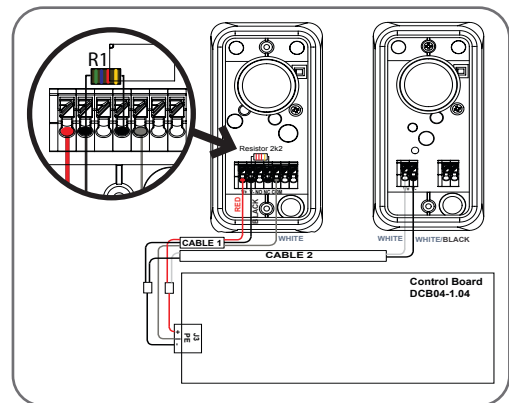
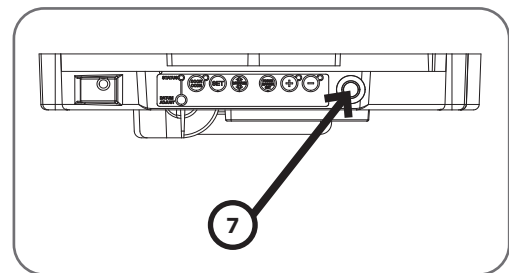
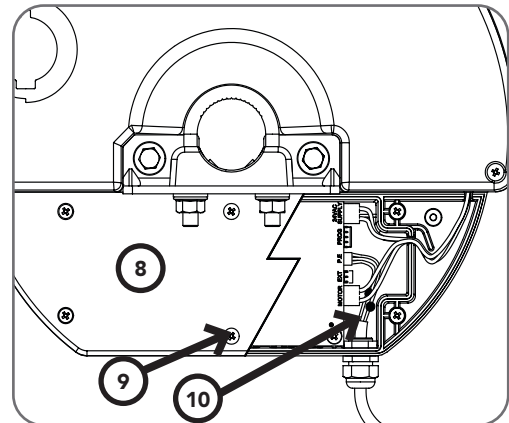

Fig. 6.10
Fig. 6.11
Fig. 6.12
A resistor 2.2kOhm is required to detect a short in the wiring of the PE Beam Receiver. The supplied resistor is to be used inside the PE Beam Receiver. Install the 2.2kOhm resistor in the PE Beam Receiver between the V- and NC terminals. Refer to the wiring diagram (Fig 6.10). Remove membrane (7) (Fig 6.11). Undo 6 tapitite screws (9) M4x 3/8" and open control cover (8) (Fig 6.12). Connect the supplied Harness (10) to the IR2000TS set (3 core cable (Cable1) to Receiver; 2 core cable (Cable2) to Transmitter) from one side and to the J3 of the DCB04 control board from other side.
**WARNING:** Install the Safety Beams as per diagram in (Fig.6.10). Tampering with the Safety Beams could result in serious personal injury and/or property damage and will void the warranty.
**AVERTISSEMENT:** Raccordez le faisceau de sécurité conformément au schéma Fig. 6.10. Saboter le faisceau de sécurité présente un risque de blessure corporelle grave et/ou de dommages matériels, et annule la garantie.